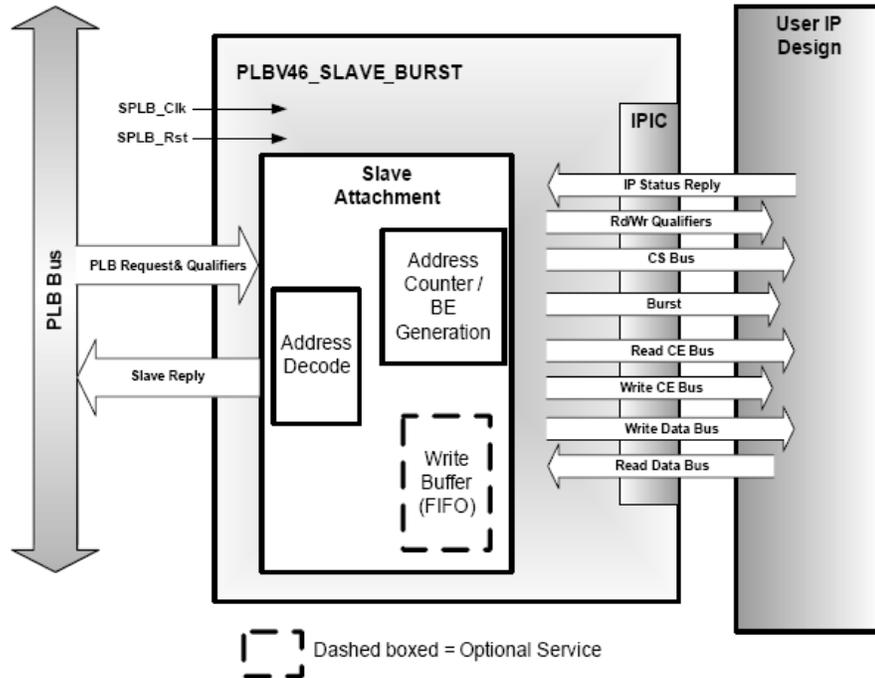
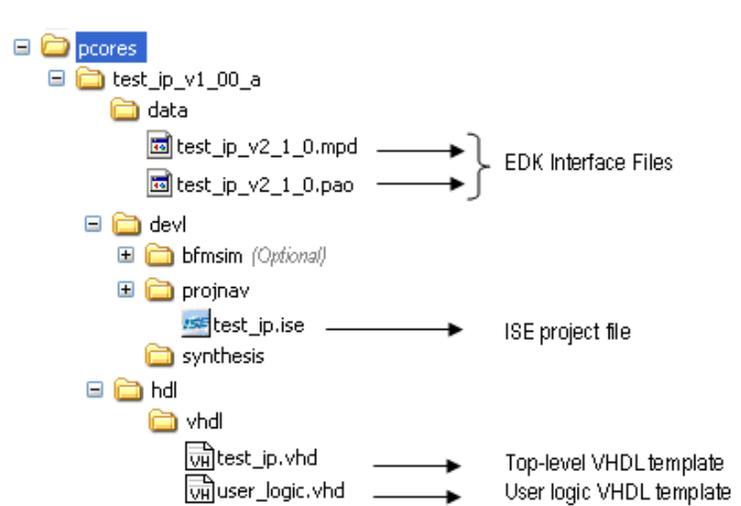
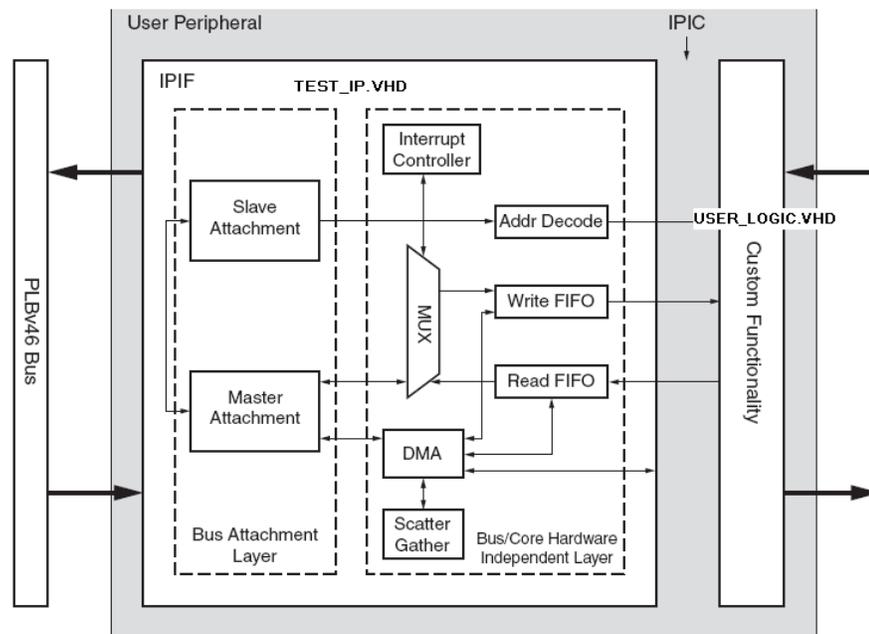

Figure 5-1: PLB Slave/Burst Module in a Custom Peripheral
Figure 5-2: Directory Structure Generated by the CIP Wizard
Figure 5-3: Relationship of IP Module to Generated Files
The PLB slave and burst peripherals are verified, optimized, and highly parameterizable interfaces. They also give you a set of simplified bus protocols. This is all IP Interconnect (IPIC), which is much easier to work with when compared to operating on the PLB or FSL bus protocols directly. Using the PLB slave and burst peripherals with parameterization that suits your needs greatly reduces your design and test effort because you don't have to reinvent the wheel. Figure 5-1 illustrates the relationship between the bus, a simple PLB slave peripheral, IPIC, and your user logic.
Now, let's draw a parallel between what the wizard created and the boxes shown in Figure 5-1. The CIP Wizard created two template files that assist in IP connection. The top-level file is given the name you entered: `test_ip.vhd`. The second file, `user_logic.vhd`, is where your custom logic is to be connected.
A review of the directory structure and files that were created by the wizard reveals where the above-mentioned and other key files reside. See the `pcores` directory in your example project directory, shown in Figure 5-2.
Note: The list of files shown in Figure 5-2 is a partial list, and do not represent the full list of directory files.
Let's focus our attention on the two VHDL template files created by the wizard, `test_ip.vhd` and `user_logic.vhd`, shown in Figure 5-2.
Figure 5-3 illustrates the relationship between the block diagram shown in Figure 5-1 and the generated files shown in Figure 5-2.
1. In XPS, select File > Open and navigate to the pcores\test_ip_v1_00_a\hdl\vhdl directory. Here you will find the test_ip.vhd file and the user_logic.vhd file. (See Figure 5-2.)